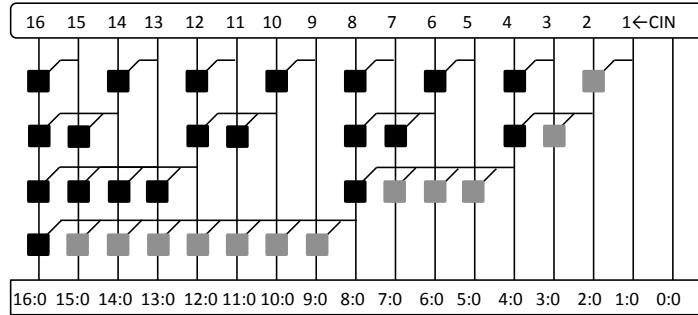
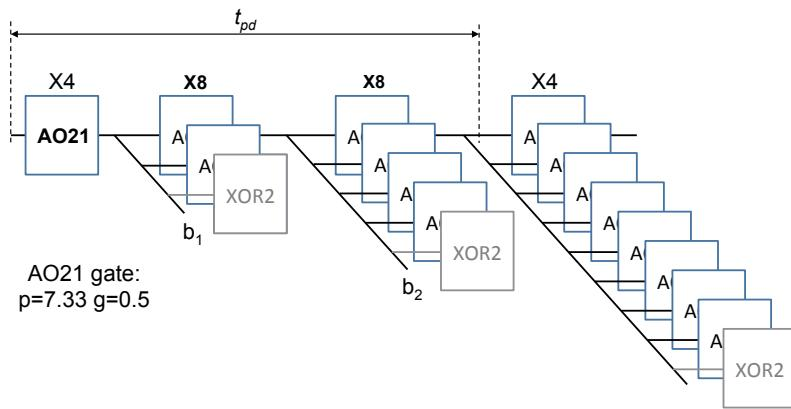

Figure 5: The Sklansky 16-bit PG tree.
Figure 6: The Sklansky tree for calculating the group generate signals with the optimal sizes for the AO21 cells derived by Kjell and data for the AO21cell.
Consider the 16-bit Sklansky adder PG tree shown in Figure 5. Kjell derived the optimal sizes for the AO21 (and-or-2-1) cells that are used to form the group generate signals in this tree. See Figure 6 for the equivalent circuit of the tree with the optimal sizes which Kjell derived while disregarding the sum XOR gates. Each AO21 cell is made up of one and-or-invert 2-1 gate and one inverter. But what if we use inverting cells in the tree instead? Would the delay be shorter then? This is the question you are to investigate in this problem.
- Calculate the delay, t_{pd} , of the original tree using AO21 gates, with the sizes and the parasitic delay and logical effort values shown in Figure 6. The sum XOR gates should be completely disregarded! (2 p)
Interestingly, the resulting sizes are the same as in Figure 6. This is because stages with electrical efforts $g = 0.5$ and stage efforts $f = 2$ will result in the same electrical efforts, h , as stages with electrical efforts $g = 2$ and stage efforts, $f = 8$. Still the solution with more logic levels is a bit faster which is a bit surprising.